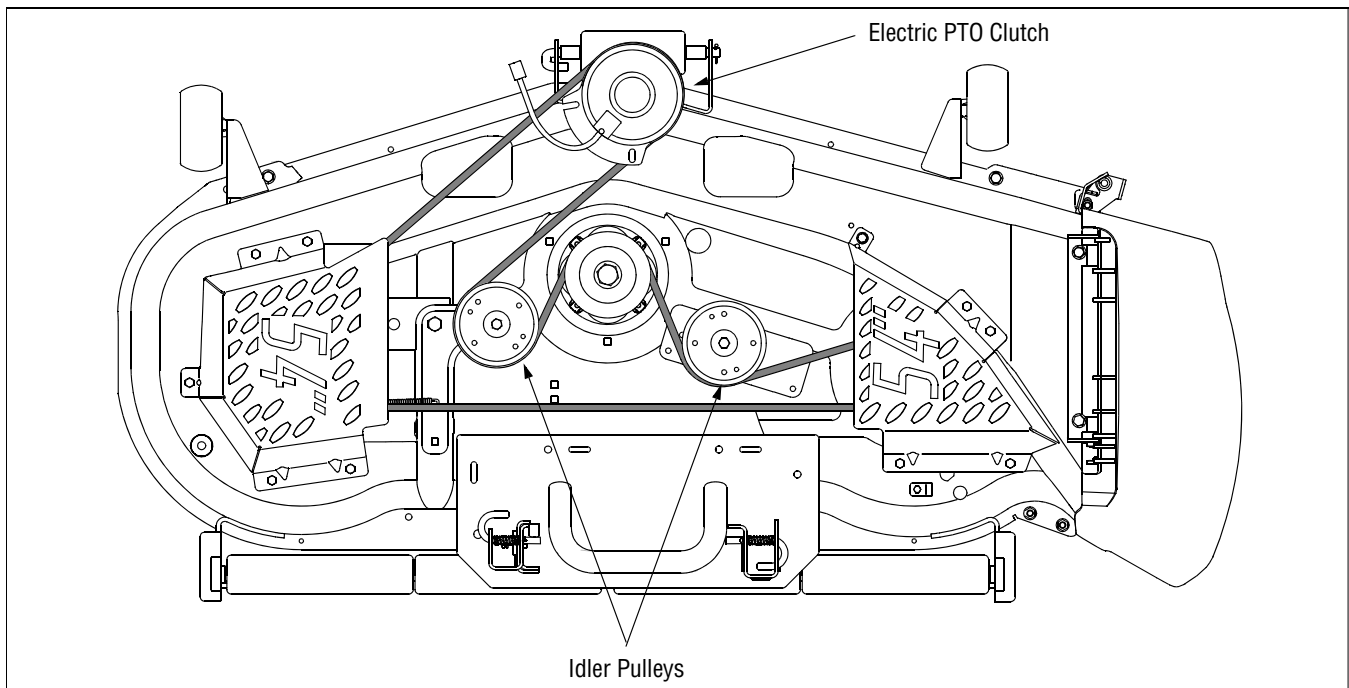

Figure 18
- Route the new belt as shown in Figure 18.